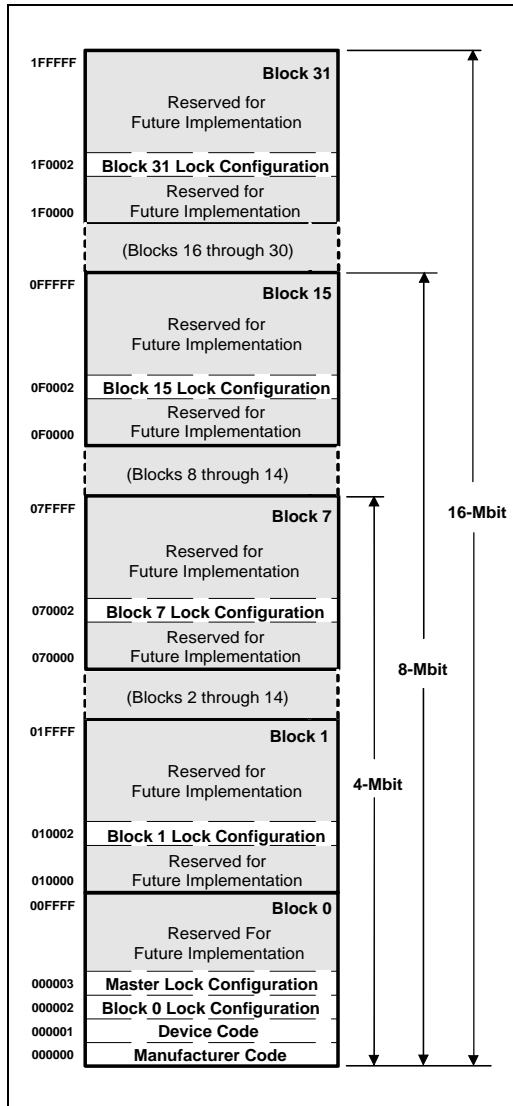

Figure 5. Device Identifier Code Memory Map
The read identifier codes operation outputs the manufacturer code, device code, block lock configuration codes for each block, and master lock configuration code (see Figure 5). Using the manufacturer and device codes, the system software can automatically match the device with its proper algorithms. The block lock and master lock configuration codes identify locked and unlocked blocks and master lock-bit setting.
IA = Identifier Code Address: see Figure 5.
The identifier code operation is initiated by writing the Read Identifier Codes command. Following the command write, read cycles from addresses shown in Figure 5 retrieve the manufacturer, device, block lock configuration and master lock configuration codes (see Table 4 for identifier code values). To terminate the operation, write another valid command. Like the Read Array command, the Read Identifier Codes command functions independently of the V_{PP} voltage and RP# can be V_{IH} or V_{HH}. Following the Read Identifier Codes command, the subsequent information can be read.
- X selects the specific block lock configuration code to be read. See Figure 5 for the device identifier code memory map.